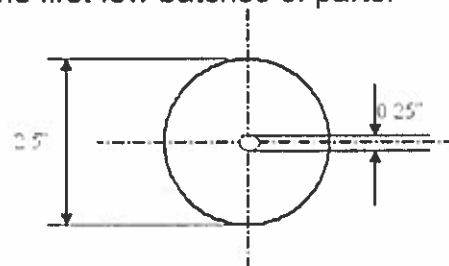

Figure 1. Polymer part.
(4-2) 500,000 parts made of polypropylene (PP), shown in Figure 1 need to be fabricated by your company. A member of the group has setup the injection mold machine to fabricate the parts, but did not have time to begin processing the parts. You are tasked with fabricating the first few batches of parts.